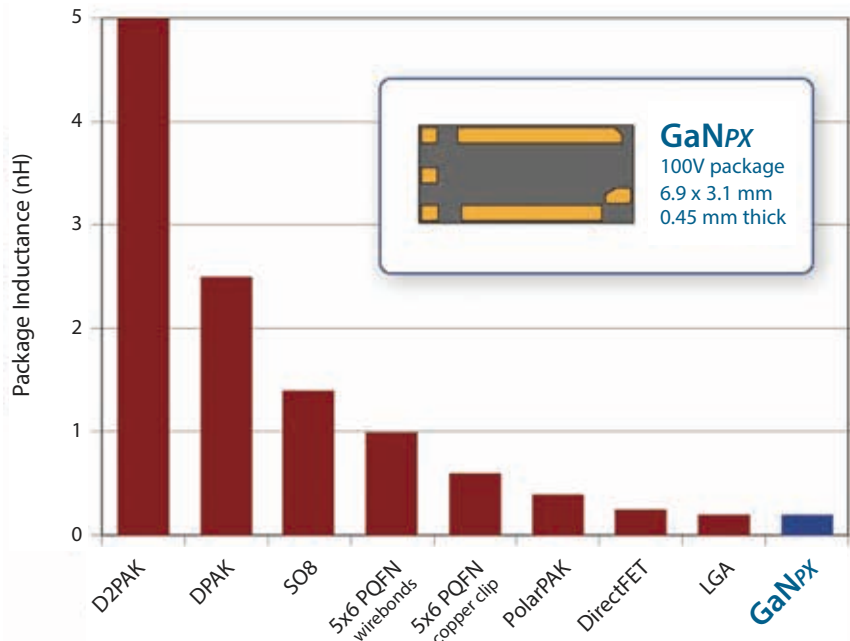

Figure 3. Package Inductance Ranking.
Further, GaN Systems and AT&S reported electrical benefits in Figure 3(3) positioning these same power package solutions by their drive loop and cumulative circuit path as a package (connection) inductance ranking. The power package